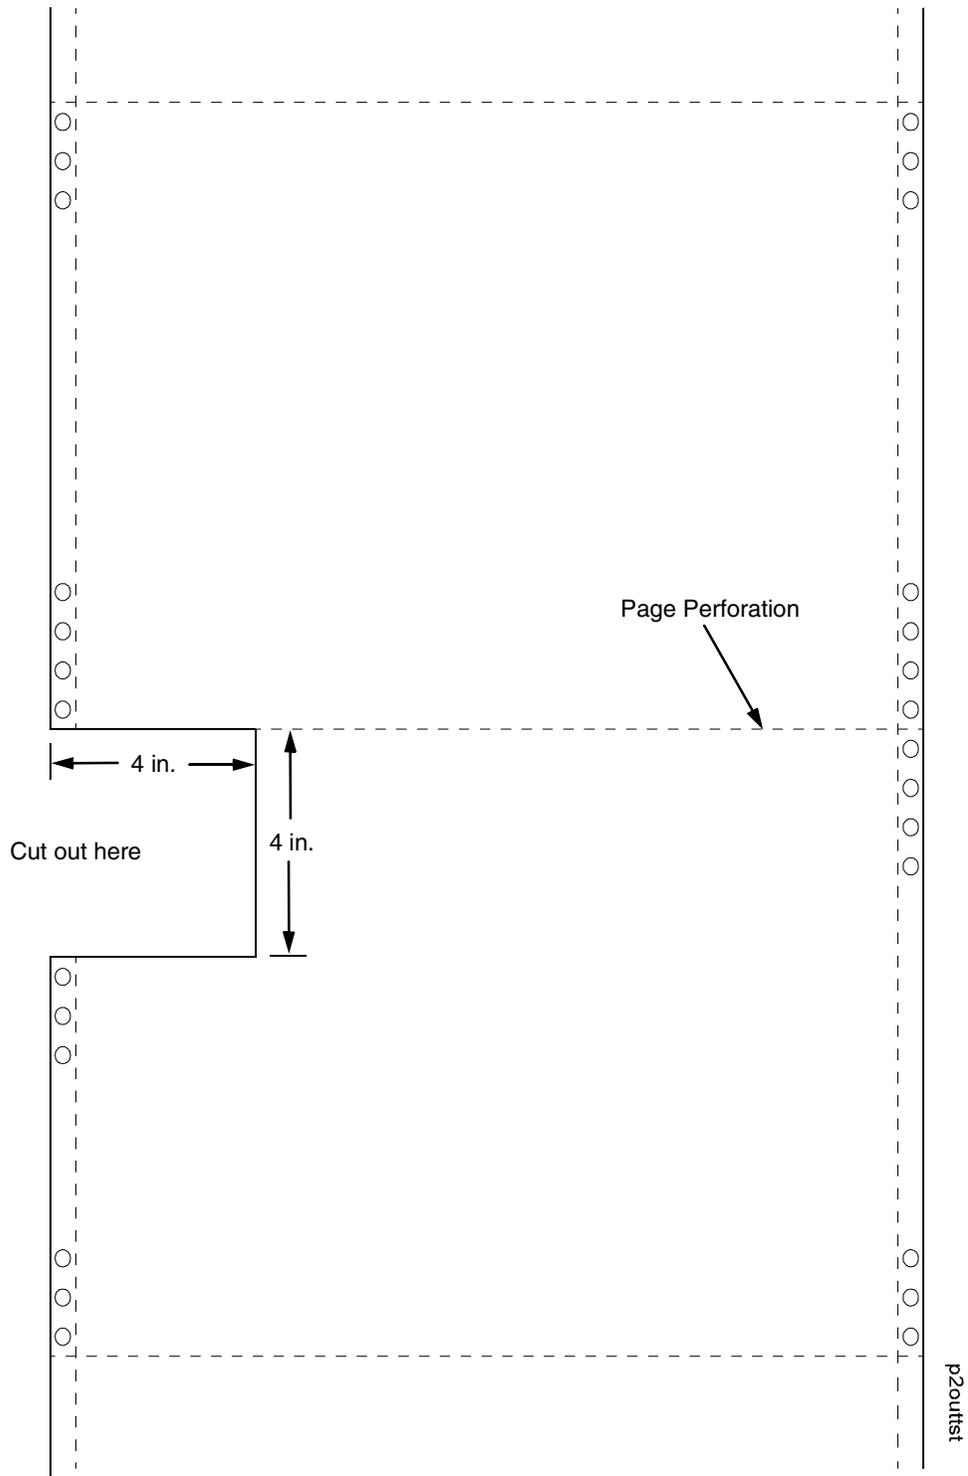

Figure 14. Paper Preparation for Paper Out Adjustment Test
6. On the sheet of paper just below the printer’s paper entrance slot, cut or tear a four inch square on the left side, immediately below the perforation. (See Figure 14.) This creates a hole that will trigger a LOAD PAPER message, but allows printing to the right of the hole. (Such printing in a true paper out condition would actually be on the platen).